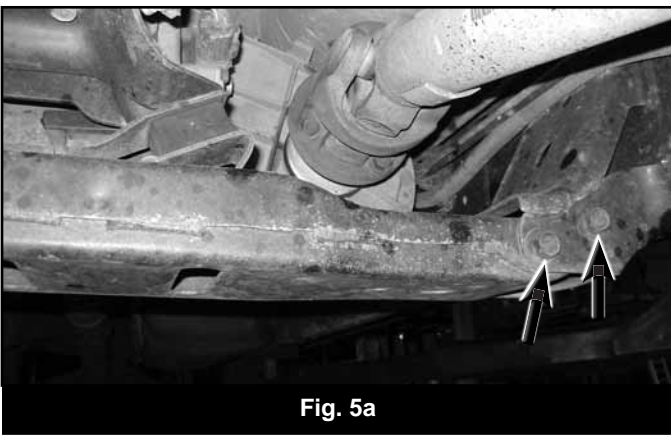

Fig. 5a
10. Remove the 4 bolts that hold the transmission crossmember into position. Mark the front side of the crossmember and remove from vehicle. (Fig 5a, 5b)